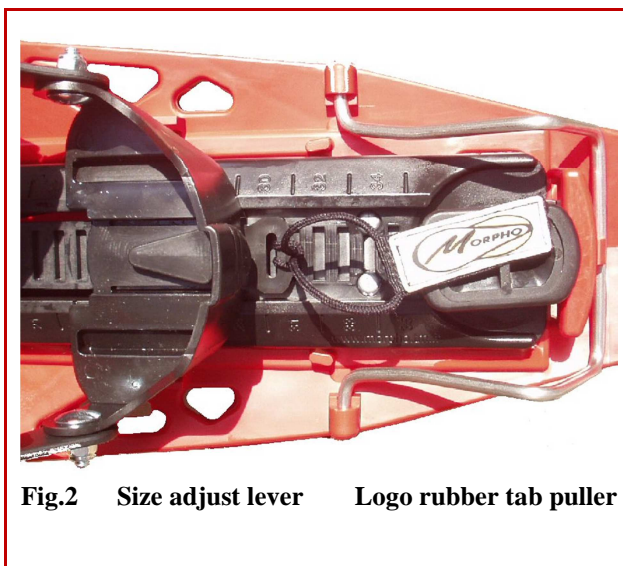
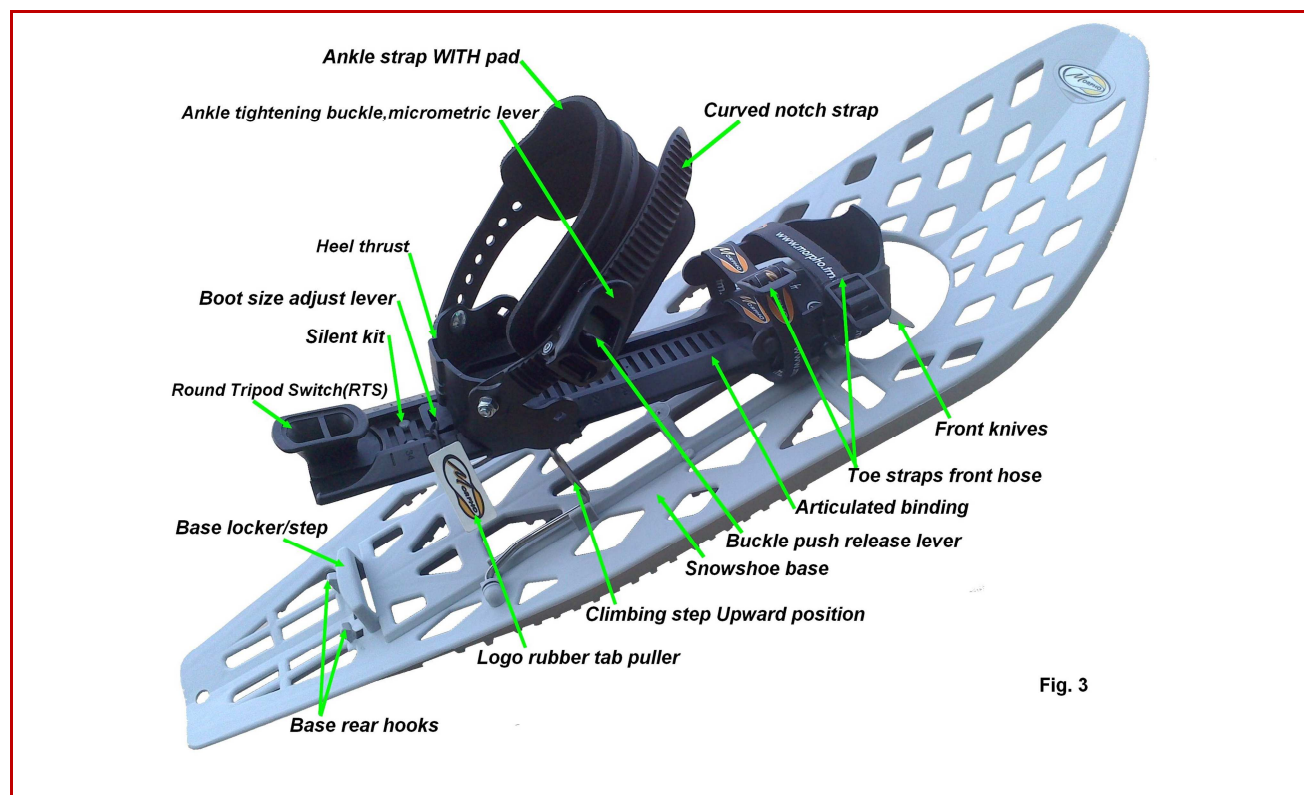

Fig.2 Size adjust lever Logo rubber tab puller
Fig. 3
1. Untighten **ankle strap** (by loosening completely the **notch strap** from the **buckle** of the strap) as well as the 2 **toe straps** so as to insert your boots and to adjust the **heel thrust** of **articulated binding** plate to your boot size. See Fig.3
3. Adjust the heel thrust to the proper size of your boot using the Morpholock system. See Fig.2:
6. **Snowshoeing:** keep **articulated binding plate free** from snowshoe base when going flat, traverse, uphill or downhill: the **RTS** unlocked from base locker/step in all cases. The articulated binding must **lay flat** on the snowshoe base or **stepping** on the extra high **metallic climbing step** when climbing steep slopes: for this purpose rotate the **climbing step** forward in its upwards position (fig.3) from its idle position (fig.2) with your gloves.
7. **After use, untighten ankle strap** first: push on the **release lever** of the ratchet buckle and pull out the ankle strap from the notch strap while keeping pressure on the **buckle push release lever**. Then untighten the 2 toe straps: pull up the ends of the quick buckles and loosen the webbings. See fig 3. Remove your boot. **To store** the snowshoe push the articulated binding on the base and lock it to the base by **rotating the RTS so as to insert it into the base locker/step**. See fig.2
.When rotating backward metallic climbing step to its idle position make sure to fully push it down until it is blocked by the 2 snowshoe base **rear hooks**. (fig.2)